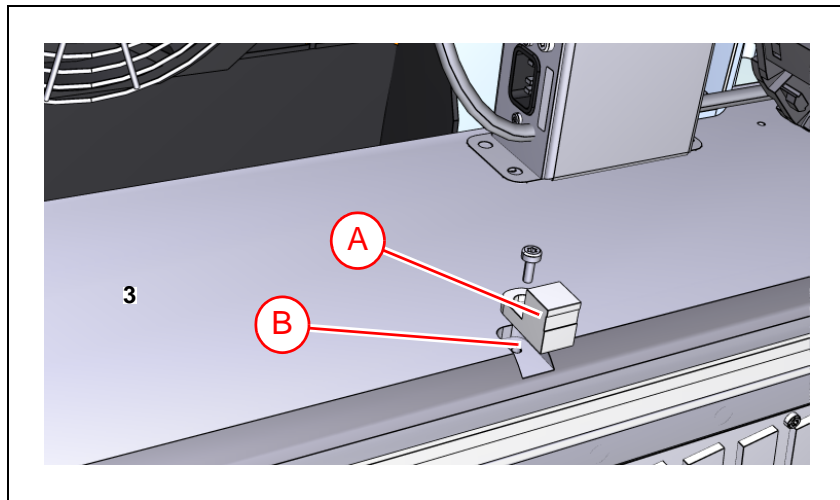

Figure 5-27. Mounting the steel strip spacers.
3. If necessary, replace the two steel strip spacers ('1' in Figure 5-27) in the recesses ('2') located in the front of the X beam.